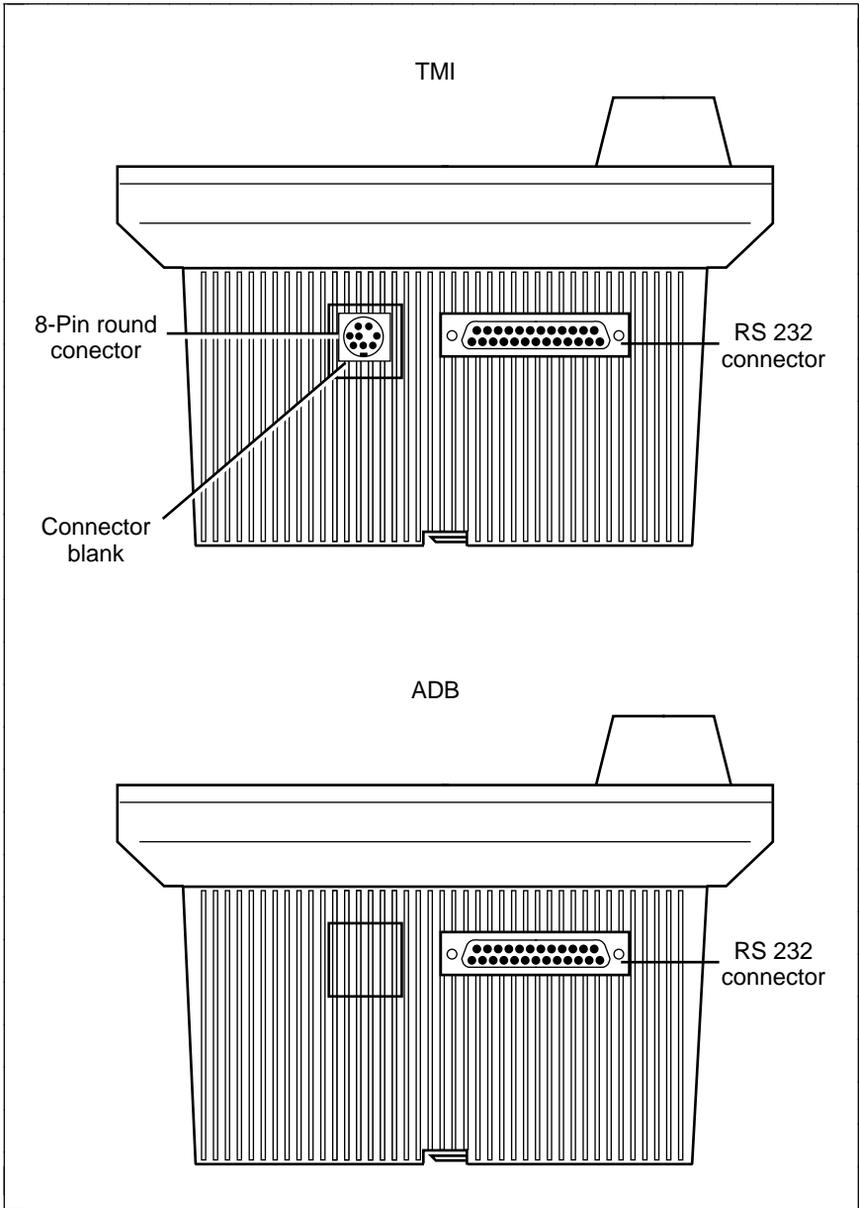

FIGURE 9 The Rear of the Voice Terminal with the ADB or TMI Board in Place
- 1 Carefully replace the desktop stand by placing the upper desktop stand tab in the terminal slot at the top of the terminal. *Be sure that the RS232 connector shows through the long rectangular connector opening. If you have installed a TMI board, be sure that the 8-pin round connector shows through the square connector opening. See **Figure 9**.*
Figure 9 shows the rear of the terminal with the ADB in place and the TMI board in place.